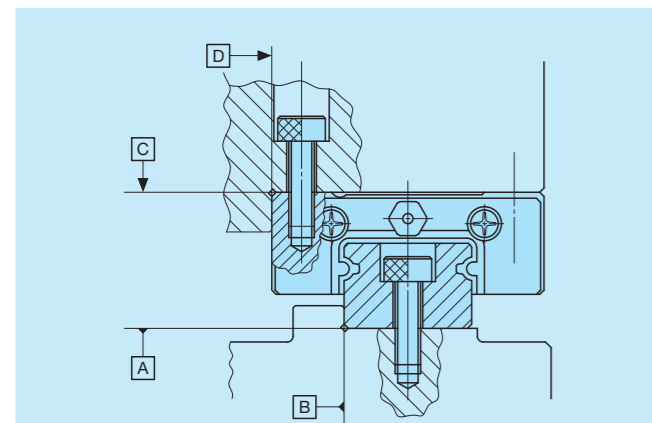

Fig. 2 Reference mounting surface and general mounting structure
① Mounting surface, reference mounting surface, and general mounting structure
To mount ML(F) and LWL(F) series, correctly fit the reference mounting surfaces B and D (D₁ or D₂) of the slide unit and track rail to the reference mounting surfaces of the table and the bed, and then fix them tightly. (See Fig.2)